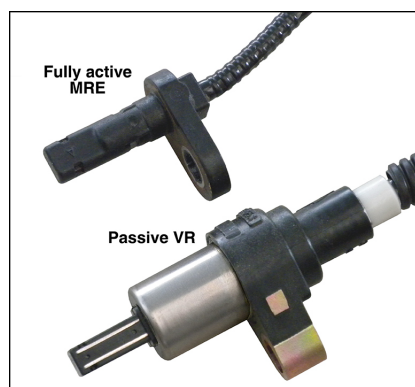

Fig. 2
The Magneto Resistive Element has been used in the design and construction of all types of sensing devices from pressure sensing and rotational sensing to sensing the earth's magnetic field. In automotive industries, use of MRE is primarily for rotational sensing. When designing a system that will incorporate proximity sensing or non-contact sensing for rotational sensors, there are several methods that can be utilized. Passive systems such as Variable Reluctance (VR) sensors, active systems such as Hall Effect and Magneto Resistive sensors, or optical sensors. The difference between these systems is that in a passive system the sensor produces its own output whereas in semi-active or fully active systems, the electronic control module supplies current to the circuit so the sensor can produce its own output. In the past, Variable Reluctance sensors have been used predominately for sensing rotational angular position and angular speed. However, the VR sensor has many draw backs in the design requirements of modern systems. The main drawback of the VR sensor is it cannot be used to sense slow rotations per minute (RPM). The VR sensor has a very small output at slow RPM and ultimately there is a minimum speed that can be detected.. This is due to the magnetic field movement following the target wheel. If the target is moving slowly, so too is the magnetic field. This field moving across the turns of the windings in the VR sensor determines the output. The faster or quicker the magnetic field movement across the windings the greater the output of the VR sensor. In modern designs the size of this sensor is also a problem. The magnet in the VR sensor will need to be large in order for the sensor to work properly. This is reflected in the size of the sensor (Figure 2).